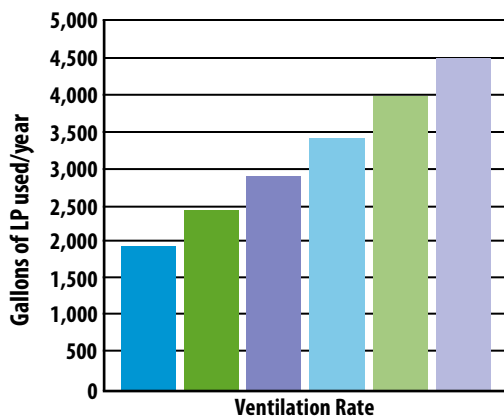

Figure 1. Over-ventilation of a 1000-head wean-to-finish facility significantly increases estimated LP usage.
Wean-to-finish buildings provide one of the greatest challenges to efficient heating. A good target for liquefied petroleum (LP) usage is two gallons per pig space per year. Actual usage will depend upon what time of year the weaned pigs are started in the building. Figure 1 shows that over-ventilating by as little as 10% can increase annual LP consumption by 27%. Likewise, over-ventilating by 40% can double LP consumption. Over-ventilating is more common than expected since it is difficult to know just how much air is actually being exchanged.